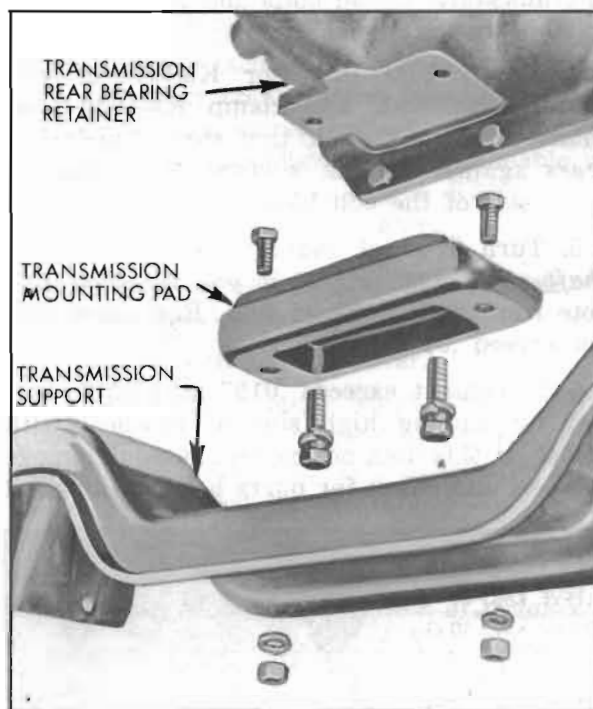

Figure 2-43—Transmission Mount
2. Make sure that transmission support to frame shims are in original position and that support is in original position fore and aft. Make sure that support to frame bolts are tight and that transmission mounting pad to support and mounting pad to rear bearing retainer bolts are tight. See figure 2-43.